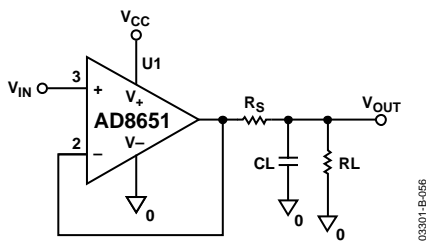

Figure 55. Driving Large Capacitive Loads
1) As shown in Figure 55, place a small value resistor ( $R_S$ ) in series with the output to isolate the load capacitor from the amplifier's output. Heavy capacitive loads can reduce the phase margin of an amplifier and cause the amplifier response to peak or become unstable. The AD8651 is able to drive up to 47 pF in a unity gain buffer configuration without oscillation or external compensation. However, if an application will require a higher capacitive load drive when the AD8651 is in unity gain, then the use of external isolation networks can be used. The effect produced by this resistor is to isolate the op amp output from the capacitive load. The required amount of series resistance has been tabulated in Table 5 for different capacitive load. While this technique will improve the overall capacitive load drive for the amplifier, its biggest drawback is that it reduces the output swing of the overall circuit.